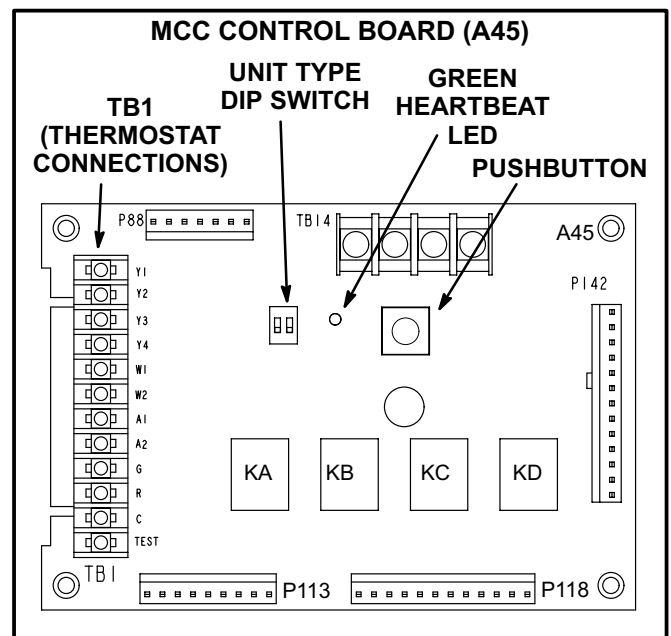

FIGURE 7
- 2- Locate green heartbeat LED on MCC board. See figure 7. LED should flash slowly to indicate normal operation. Refer to table 2 if the heartbeat LED is not flashing normally.